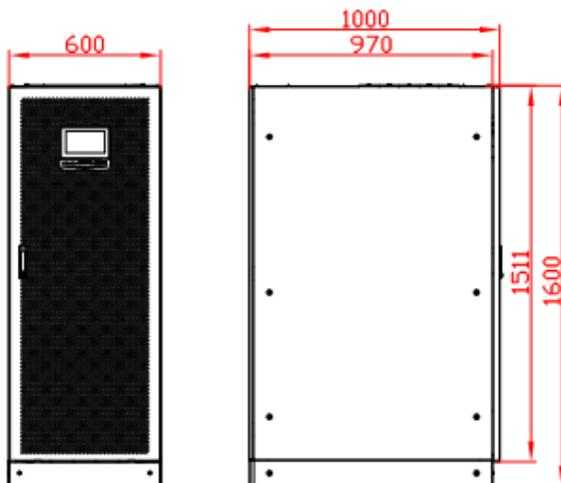

Figure3-16 Size of 160K, 200K
- Step 1 Determine and plan the installation position according to the UPS size (as shown in Figure3-16) and installation clearance requirement (see **3.2.3 Installation**).